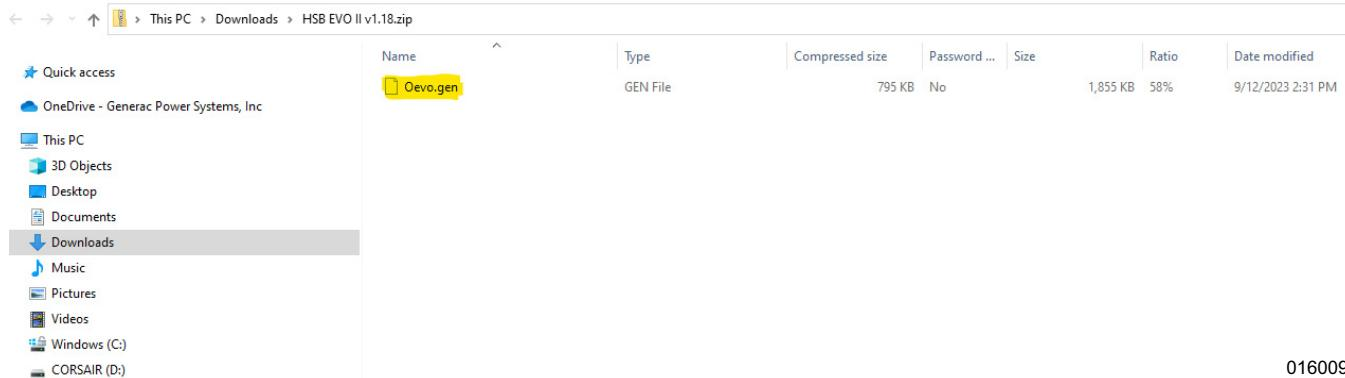

Figure A-7. Click Extract
10. See **Figure A-7**. Click “Extract”.